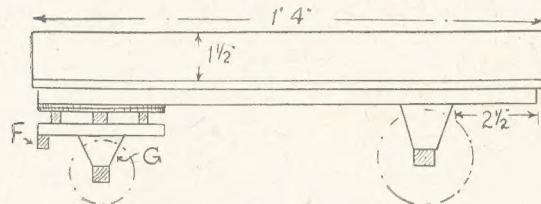
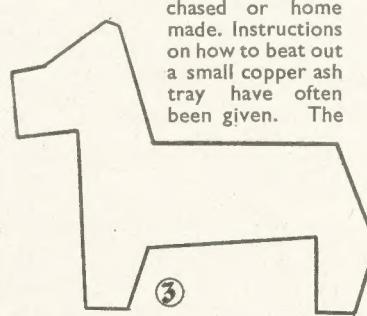

Fig. 1—Side elevation of body and chassis
Fig. 3—The first general shaping
A side elevation is given in Fig. 1, a rear one at Fig. 2, and a front one at Fig. 3. From these a helpful idea of the general construction is given, and certain dimensions. The body is just a tray, as it were, of four sides and a bottom.
The bogie for the front wheels, see Figs. 1 and 3, consists of strips of wood, 4ins. long, joined together crosswise to make a square of that size. Three pieces each way are required, the side ones being of  $\frac{1}{8}$  in. by  $\frac{1}{8}$  in. wood, and the middle ones of  $\frac{1}{8}$  in. by  $\frac{1}{8}$  in. wood, the extra width of the middle ones being necessary to carry the pivot screw on which the bogie swings. It will be seen that the top side strips are placed  $\frac{1}{4}$  in. from the sides.
Fig. 3—Front end view Fig. 5—Turntable and axle parts underneath, shown at (F) (Fig. 1). Supports to carry the axle are fitted at (G). These are cut and shaped from 1in. deal to sizes given at (G) and (E) in Fig. 4, and are fitted on with glue and nails, as for the back axle, already described.
A similar axle is screwed across. A second disc of  $\frac{1}{8}$  in. fretwood, 4ins. diameter is now cut; this is glued over the bogie, and comes, when the bogie is fitted to the truck, directly under disc (B) in Fig. 3. It is lettered (C) to distinguish it. A detail of the complete bogie is given in Fig. 5, and shows the
underneath, shown at (F) (Fig. 1). Supports to carry the axle are fitted at (G). These are cut and shaped from 1in. deal to sizes given at (G) and (E) in Fig. 4, and are fitted on with glue and nails, as for the back axle, already described.
Wood of the thickness mentioned is rather too thick to be sawn with an ordinary fretsaw, though if available the type of saw known as a coping saw can be used. The usual way, however, is first to rough out the figure by means of straight sawcuts as in Fig. 3 and remove some other waste with a gouge and/or chisel.